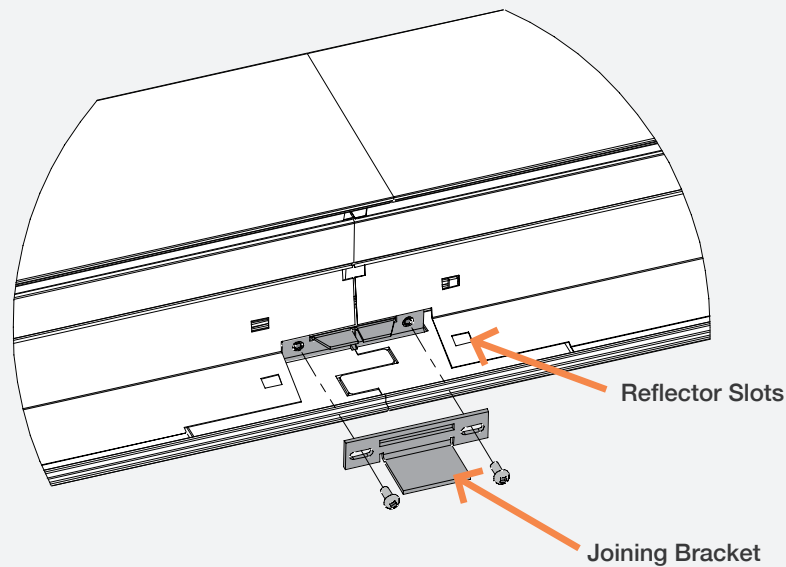

FIGURE 2
- From the bottom of the fixture, slide the joining bracket onto the two flanges of the bottom brackets and secure using two #6-32 screws (**FIG. 2**). Repeat this process on the opposite side of the fixture joint.